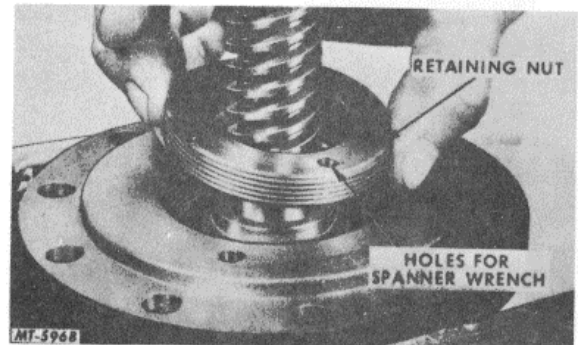

Fig. 16
13. Use a spanner wrench, SE-2279, to loosen the bearing retainer nut; then remove nut, Fig. 16.